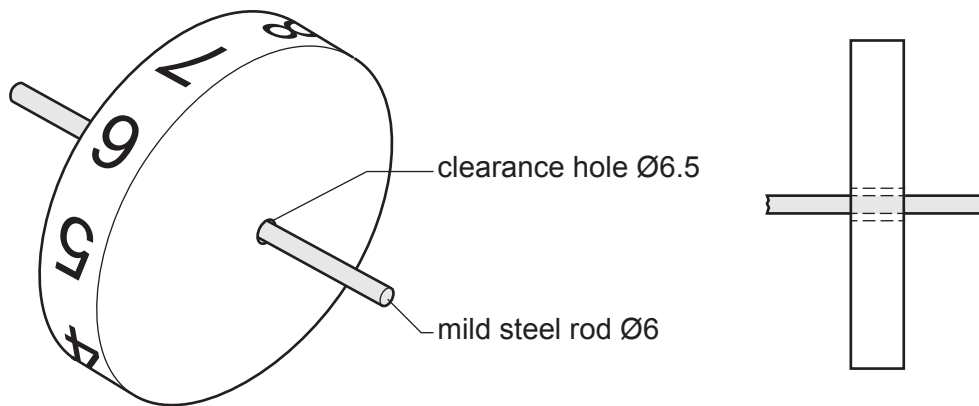

Fig. 11.5
- (e) Fig. 11.5 shows details of the discs and the mild steel rod on which the discs rotate. The discs must be prevented from sliding along the mild steel rod.